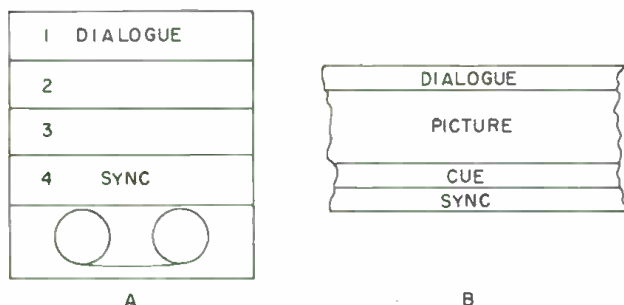

Figure 1. (A) This is what is recorded on audio tape; and (B) is the same program recorded on video tape.
What we have recorded on audio tape on Monday is shown in FIGURE 1(A) and on video tape in FIGURE 1(B). On audio tape we have dialogue on track one and sync on track four. This leaves track two and track three available for music and sound effects, respectively. Video tape, on the other hand, has recorded dialogue on the top (audio) portion of its tape, picture in the center section, a cue\* track below the picture, and sync track on the bottom edge.